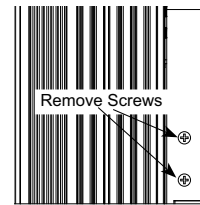

Figure 1
5. Using a suitable tool remove the two screws from each side of the MC1.25KW Rear Chassis Handle and temporarily place them in a safe place. Refer to figure 1.